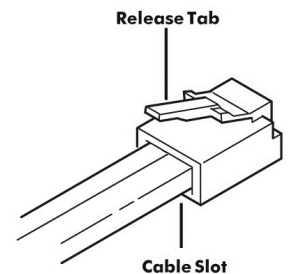

FIGURE 23: RJ-12 Modular Plug
10. Push down on the release-tab on the RJ-12 Modular Plug (Figure 23) and remove the RJ-12 Modular Plug from the crimping tool.